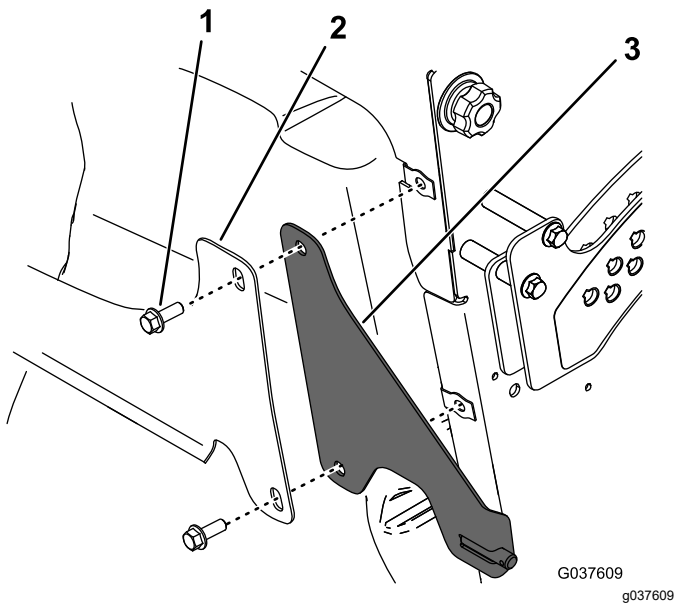

**Figure 16**
4. Secure the bagger frame to the front mount bracket using a carriage bolt (3/8 x 1 inch) and nut (3/8 inch) as shown in Figure 16.